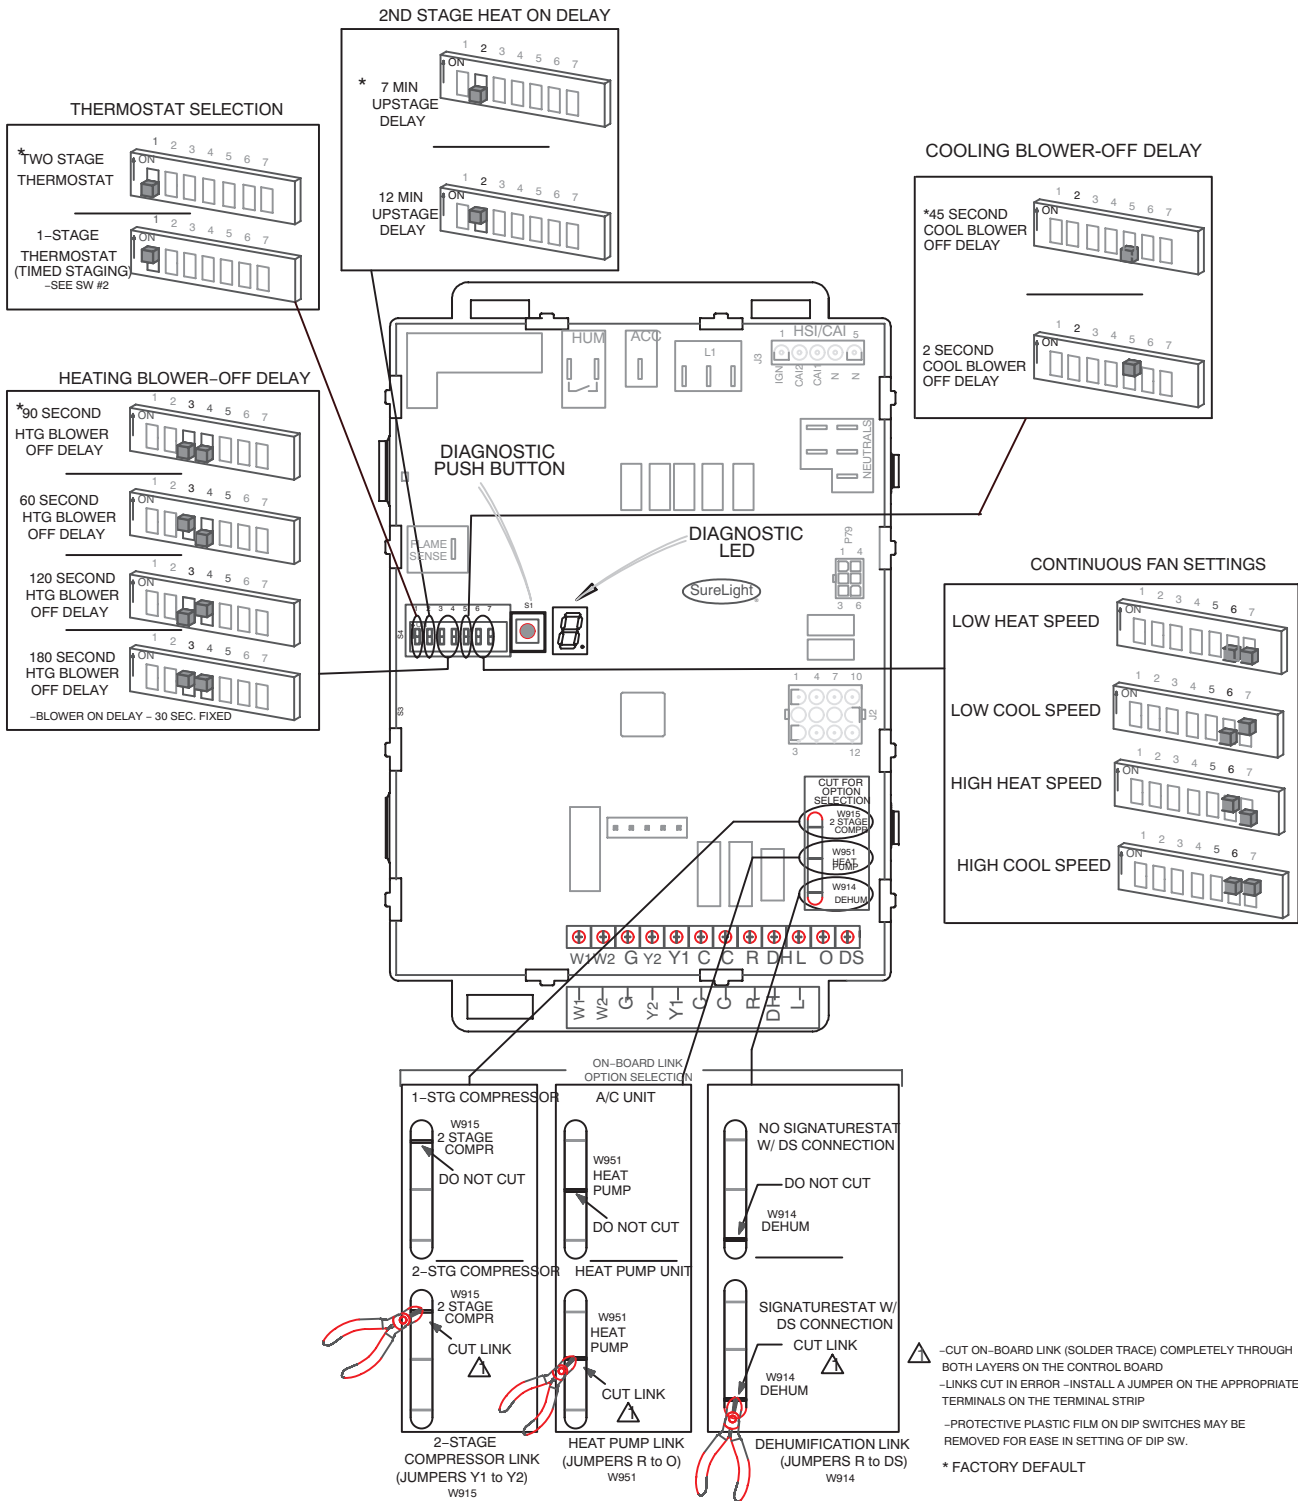

FIGURE 6
Units are equipped with the SureLight® two-stage, integrated control. The system consists of a ignition / blower control (FIGURE 4 and FIGURE 6) with control pin designations in TABLE 1 and TABLE 2 and ignitor. The control and ignitor work in combination to ensure furnace ignition and ignitor durability. The control provides gas ignition, safety checks and indoor blower control with two-stage gas heating. The furnace combustion air inducer, gas valve and indoor blower are controlled in response to various system inputs such as thermostat signal, pressure and limit switch signal and flame signal. The control features a seven-segment LED display, indicating furnace status and error codes. The LED flashes in single digits. For example using table 4 under LIMIT CODE, an "E" followed by "2" followed by "5" followed by "0", the limit switch circuit is open. The control also has two unpowered (dry) 1/4" contacts for a humidifier and a 120 volt accessory terminal. Both rated at (1) one amp each.